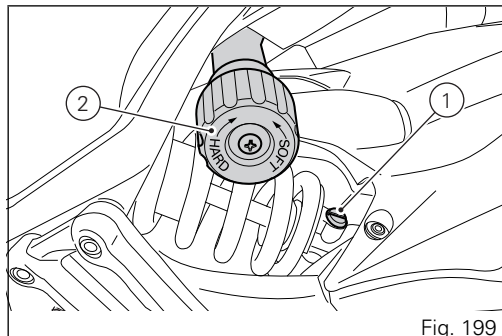

Fig. 199
The adjuster (1, Fig. 199), located on the lower mount which fastens the shock absorber to the swinging arm, adjusts the damping during the rebound phase (return).
The knob (2, Fig. 199) located on the left side of the motorcycle, adjusts the preload of the shock absorber external spring.
To reach adjuster (3) it is necessary to remove the rider seat and cover (4) next to the battery. It is possible to work on adjuster (3) through the opening on the battery support. Turn adjusters (1, Fig. 199) and (3) or knob (2, Fig. 199) clockwise or counter-clockwise respectively to stiffen or soften the damping or the preload.